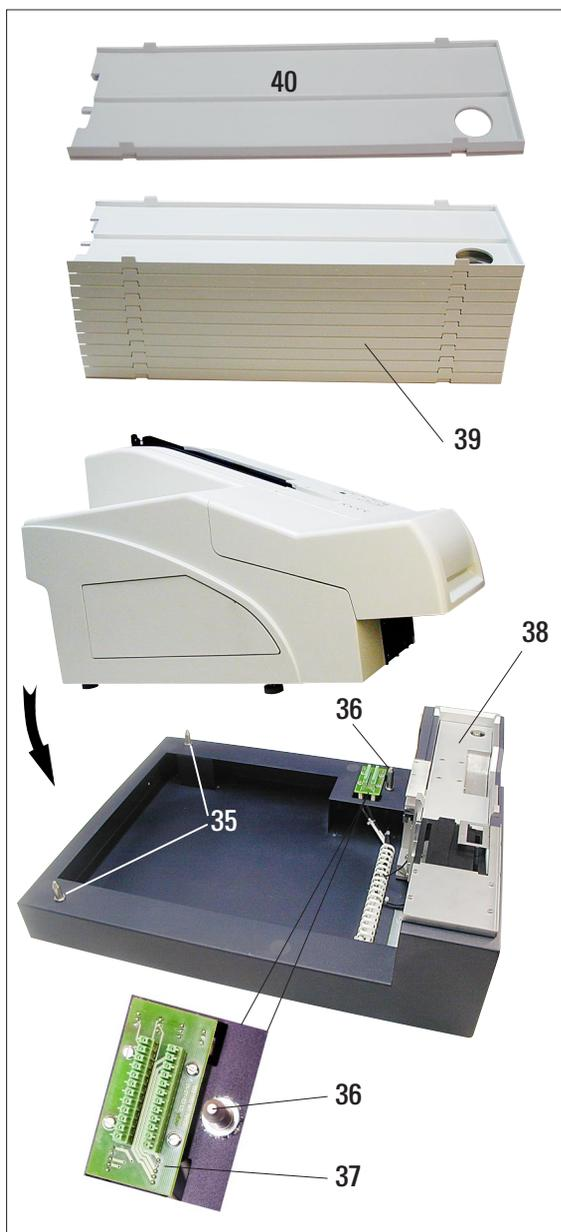

Fig. 12
- Hold the printer on both sides (right and left) and first insert the two rear bolts (35, Fig. 12) of the unload station into the openings in the base plate of the printer. Then carefully lower the front part of the printer onto the third bolt (36) so that the plug connection (37) locks into place in the printer base plate and the printer remains securely fastened on the unload station.
- Place the stack of trays (39) onto the lifting table (38) of the automated unload station. See chapter 5.2, p. 37 for details on the lifting table controls.